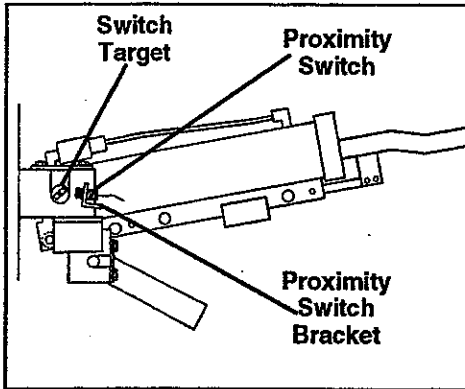

Fig. 11. Proximity Switch
- E. Set the proximity switch into the bracket that is located on the hook cylinder trunnion in the pan. See Figure 11.